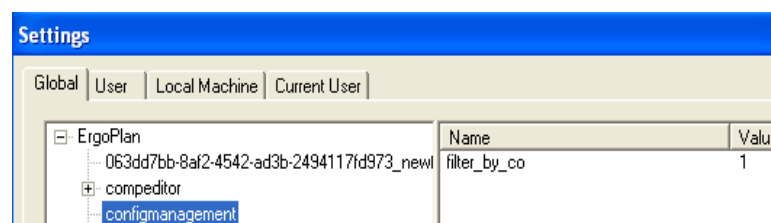

Figure 13: Global Key
- 3) Click **Tools < Settings < Global** and set the **configmanagementfilter_by_co** global key to value 1. Please refer to the Figure 13.